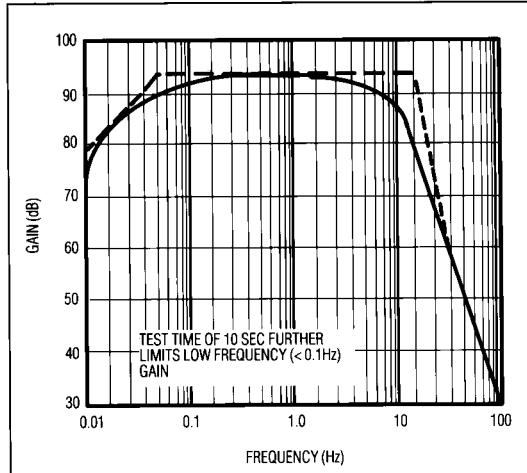

Figure 6. 0.1Hz to 10Hz $V_{\text{p-p}}$ Noise Tester Frequency Response
3. As shown in Figure 6, the 0.1Hz corner is defined by only one zero. A maximum test time of 10sec acts as an additional zero to eliminate noise contributions from the frequency band below 0.1Hz.